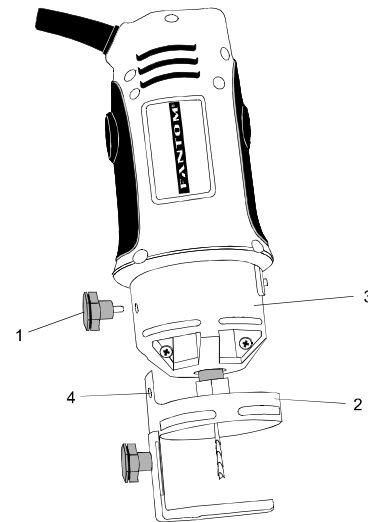

Fig. 4
1. Remove accessory locking knob (1) from the base of the spin saw motor housing (see Fig. 4). Slide freehand sole plate mounting bracket (2) onto the bottom of motor housing (3) until the mounting hole (4) lines up with the hole in the motor housing.
2. Install freehand sole plate as shown in Fig. 4.